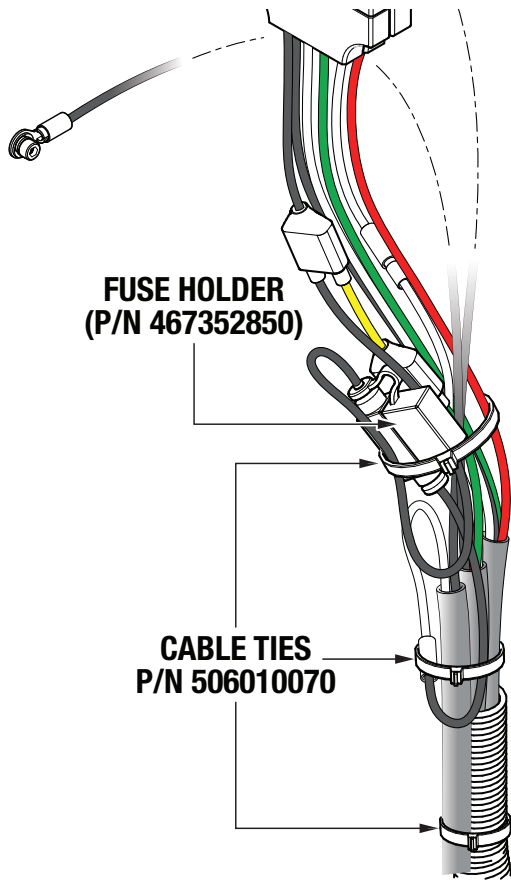

Figure 16. Conceal and Secure Wiring (MVH308DZ/MVH408DZ)
7. Conceal the new wiring assembly inside the existing wire harness, and secure it with cable ties (P/N 506010070). See Figure 16.
8. Secure the fuse holder (P/N 467352850) to the existing wire harness with cable ties (P/N 506010070). See Figure 16.